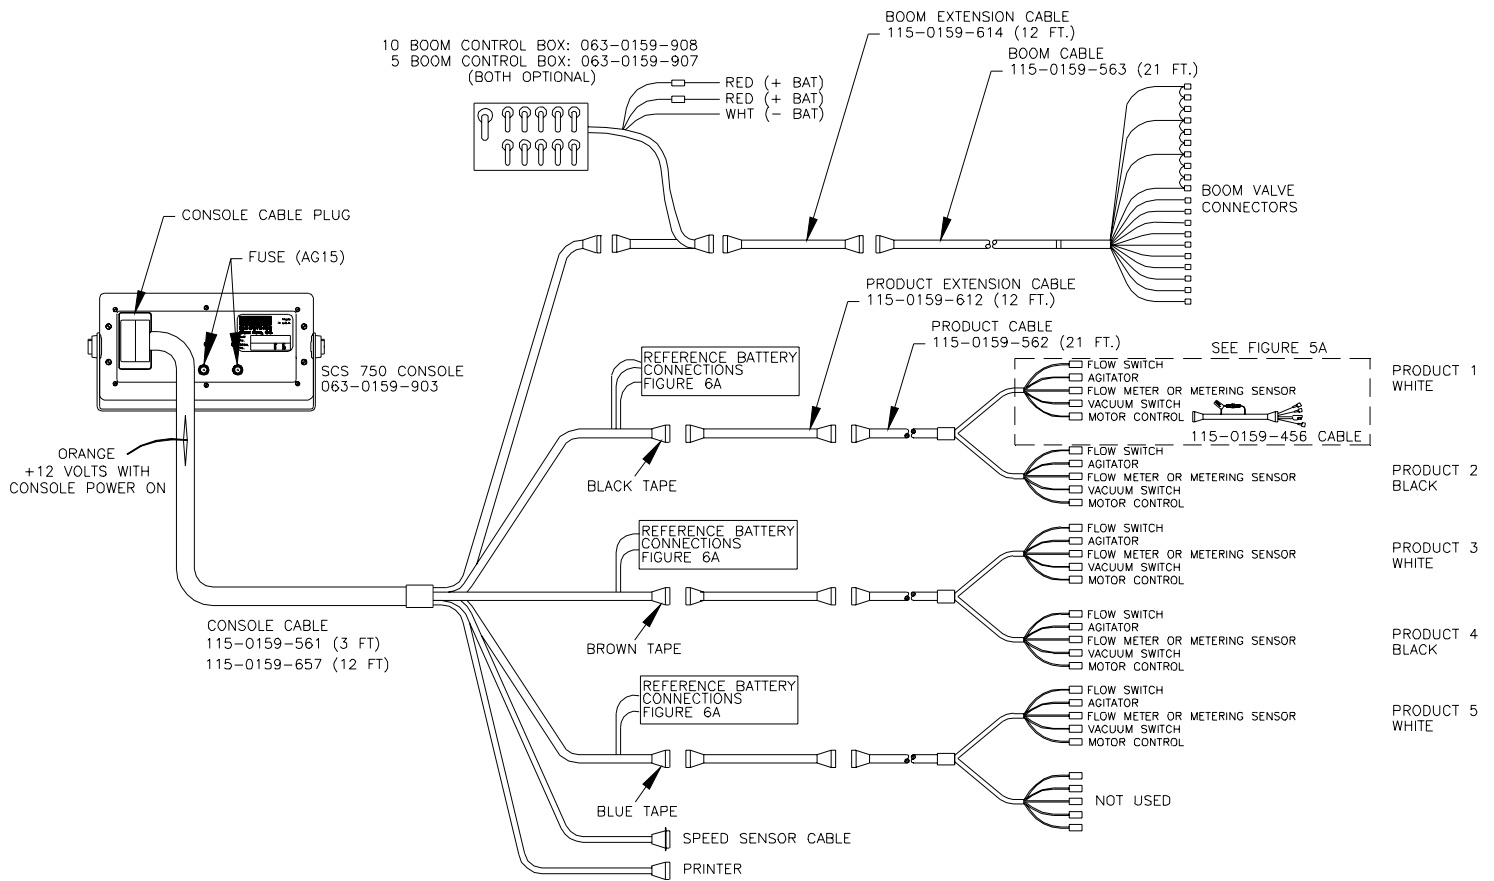

FIGURE 5
- 4) Connect the Console Control Cable to the plug in the back of the Console. (See Figure 5). Route Console Control Cable in vehicle cab and connect with Product Cable and Boom Cable on the sprayer. (Extension cables are available from a Raven Dealer). Secure with plastic cable ties.